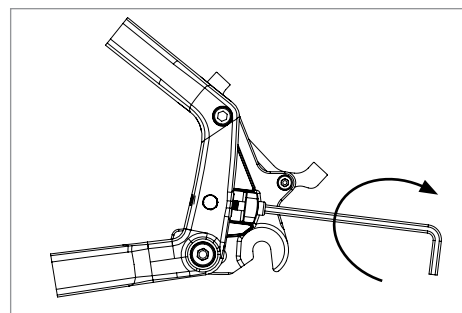

Figure 7
- c. Tighten the anti-slip screw until the bolt head contacts the tab on the dropout plate. Adjust the angle of the bolt so that the portion of the head in line with the bolt axis (3 and 6 o'clock) are touching the curved surface of the tab (Fig. 7). Tighten 1/4 turn past snug. This screw is designed to prevent the non-driveside dropout plate from slipping rearward under higher loads from hard braking.